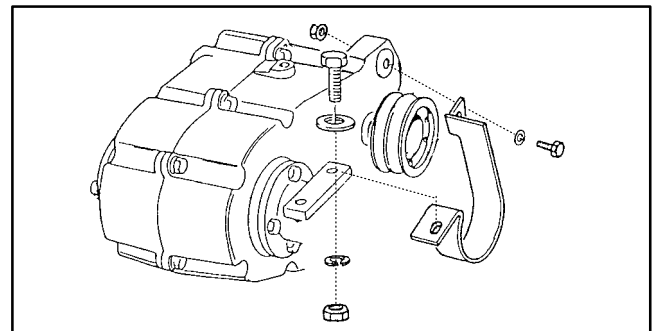

Figure 8
- A. Cap screw (item 17) and pyramidal washer (item 19).
- B. Four (4) cap screws (item 5) and pyramidal washers (item 4).
- C. Four (4) cap screws (item 30), lock washers (item 8) and nuts (item 31). NOTE: One of these cap screws is used to secure belt guide (Fig. 8).
10. If necessary, brake disc (item 29) can be removed from transaxle brake shaft by loosening two (2) set screws (item 27) and sliding disc from shaft. Locate and retrieve woodruff key (item 16).
- A. Remove three (3) cap screws (item 15) and lock washers (item 14) that secure taper lock bushing to pulley.
- D. Locate and retrieve woodruff key (item 16) that locates bushing on transaxle shaft.
- B. Apply Loctite #242 (or equivalent) to threads of two (2) sets screws (item 27). Secure brake disc on shaft with set screws.
- B. Place woodruff key (item 16) in input shaft slot. Slide pulley (item 13) and then taper lock bushing (item 12) onto transaxle shaft making sure that tapered surfaces of pulley and bushing align.
C. Align threaded holes of pulley with non-threaded holes of bushing. Loosely install three (3) cap screws with lock washers into pulley threads.
- D. Align the outside of bushing with the inside of the groove on the input shaft (approx 1/8" from end of shaft). Tighten three (3) cap screws to a torque from 90 to 120 in-lb (10.2 to 13.6 N-m) in three equal steps and in a circular pattern to secure pulley and taper lock bushing.
3. If sprocket (item 11) was removed from transaxle shaft, apply antiseize lubricant to transaxle shaft before installing sprocket. Also, apply Loctite #242 (or equivalent) to set screws (item 6) before installation.
- A. Four (4) cap screws (item 30), lock washers (item 8) and nuts (item 31). NOTE: Leave front cap screw on input shaft side of transaxle loose until belt guide is installed (Fig. 8).
- C. Cap screw (item 17) and pyramidal washer (item 19).